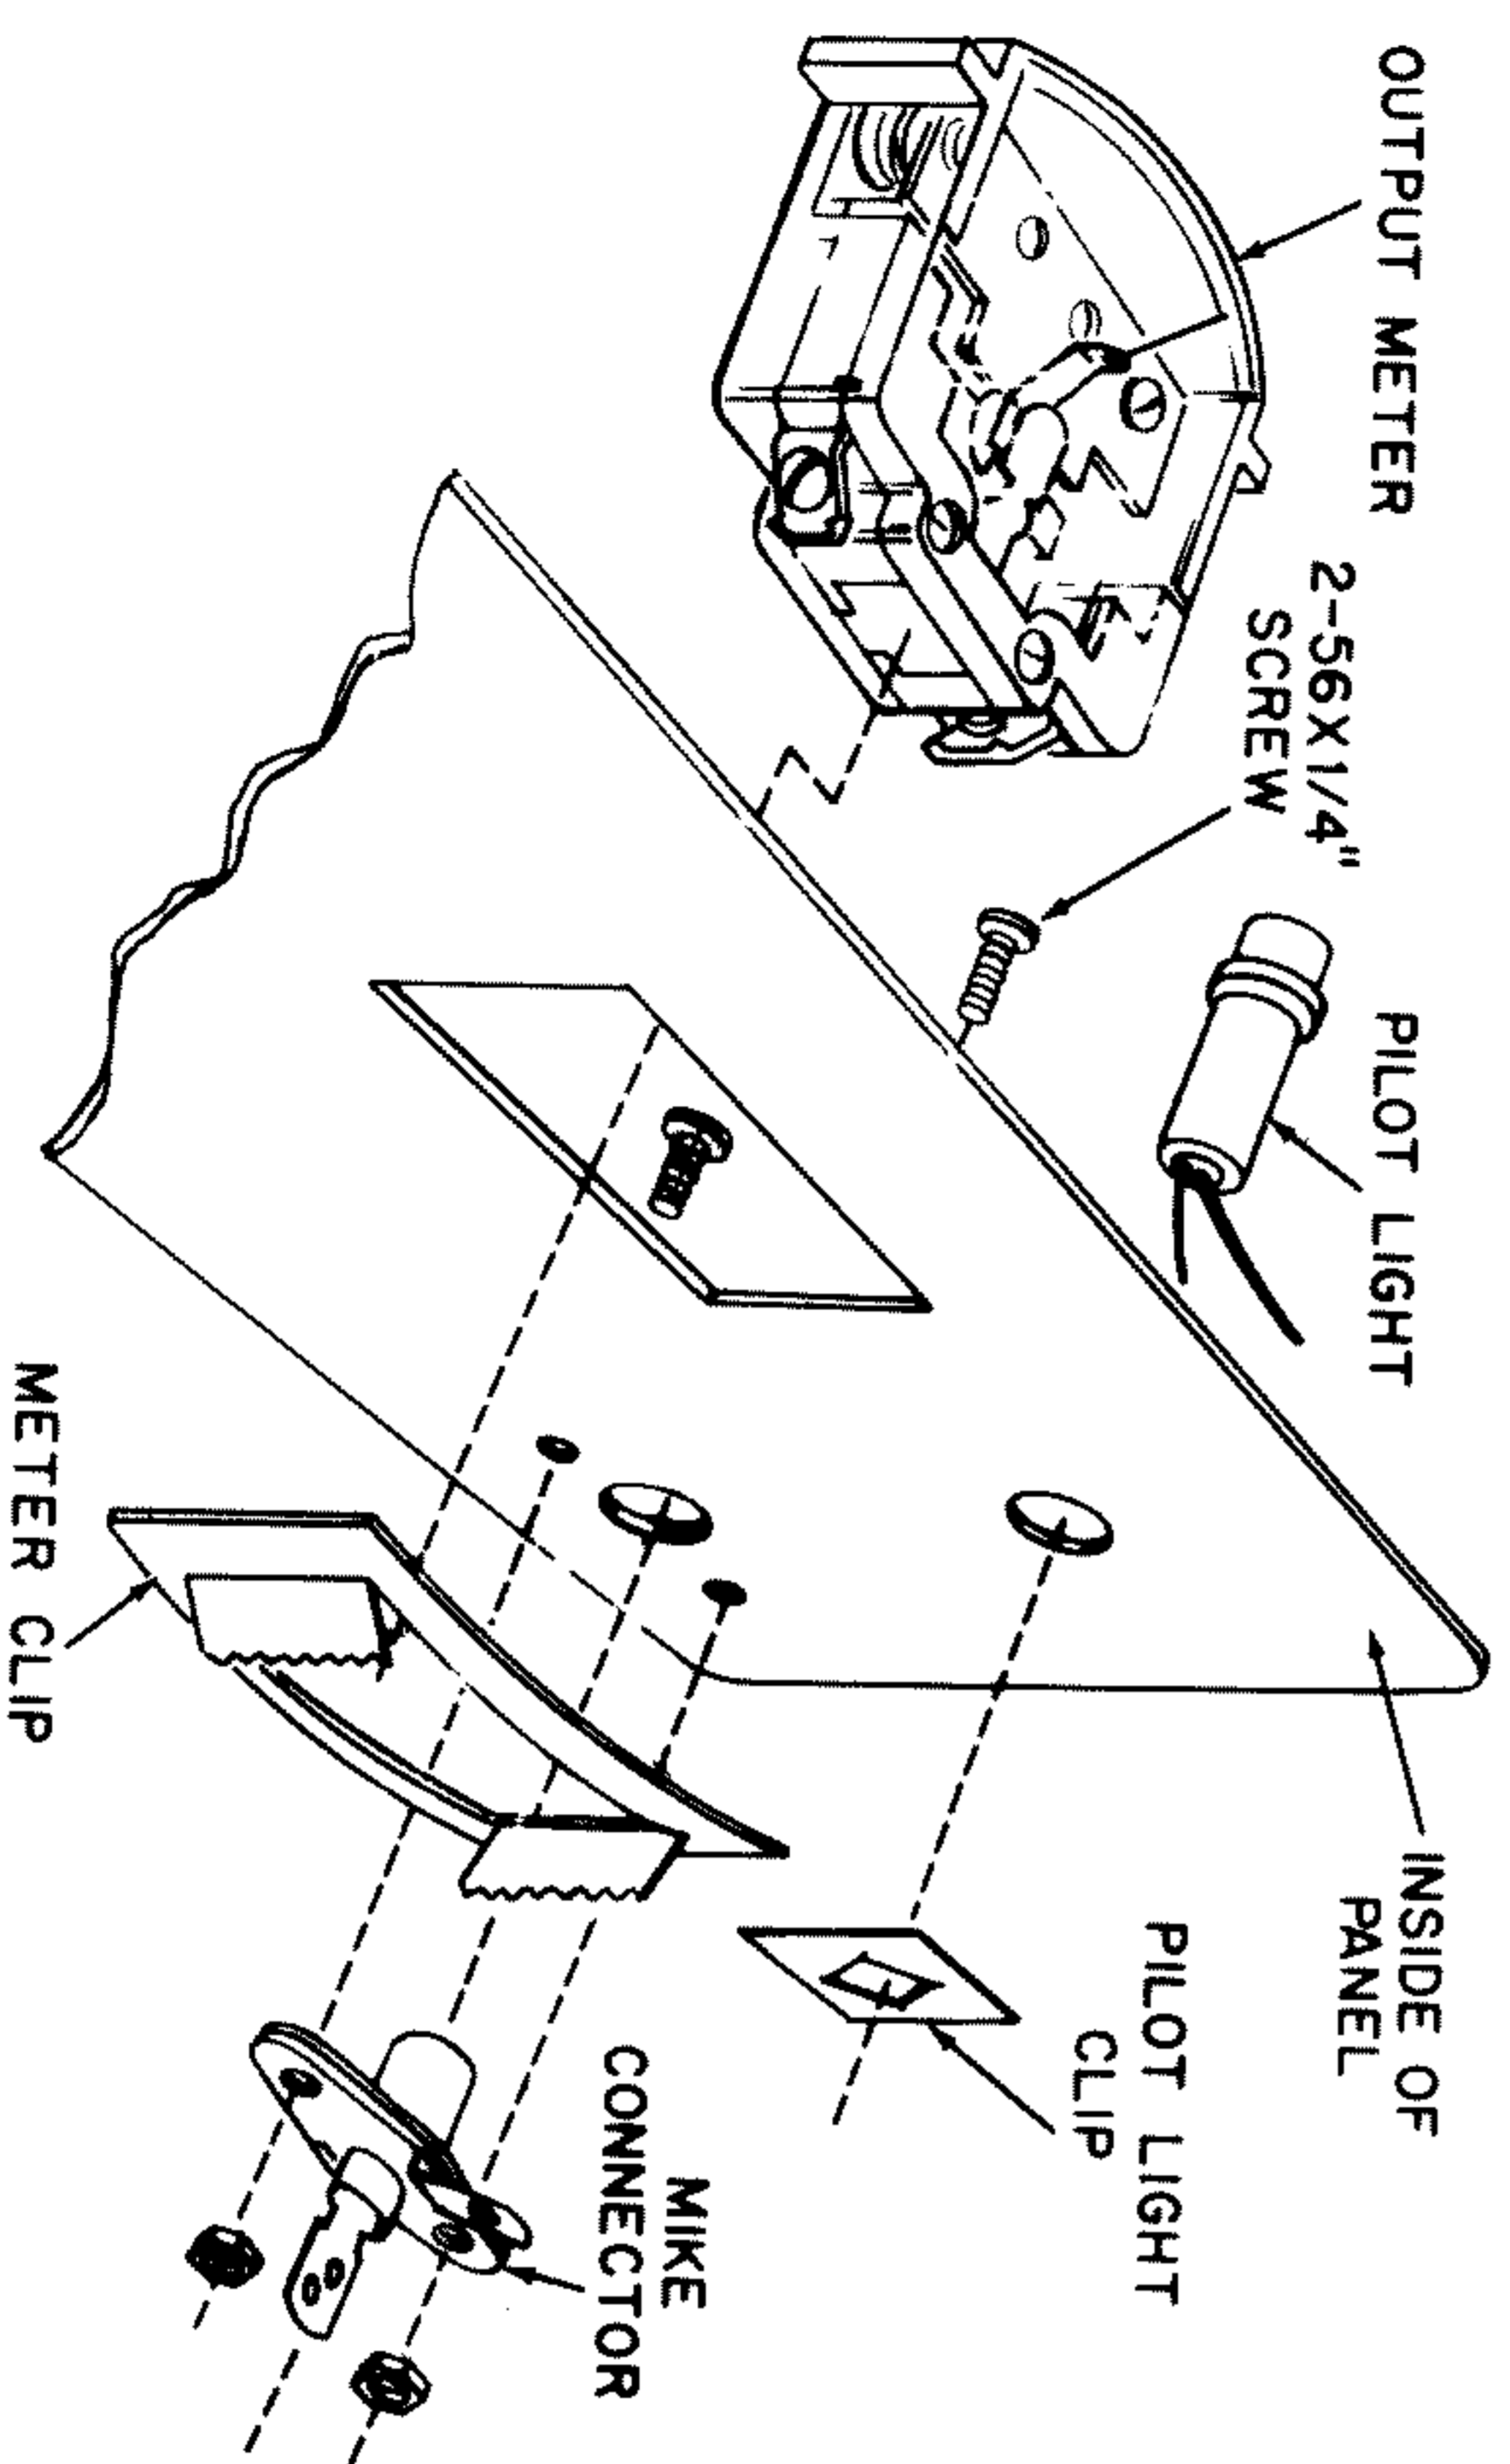

FIGURE 16
### SEE FIGURE 16
- ✓  Power output meter. See Figure 16. Insert meter through hole on front side of front panel. Take rectangular mounting clip and slip over meter body from backside of panel, make sure the meter is in correct position. Do not mount meter upside down. Place meter face on soft surface and push clip down with fingers until meter is secure.
- ✓  Red, flat-faced pilot light. See Figure 16. Insert light through hole on front side of front panel. Slip small square mounting clip over the light body. Place face of light on soft surface, and push clip down with screwdriver till light is secure.